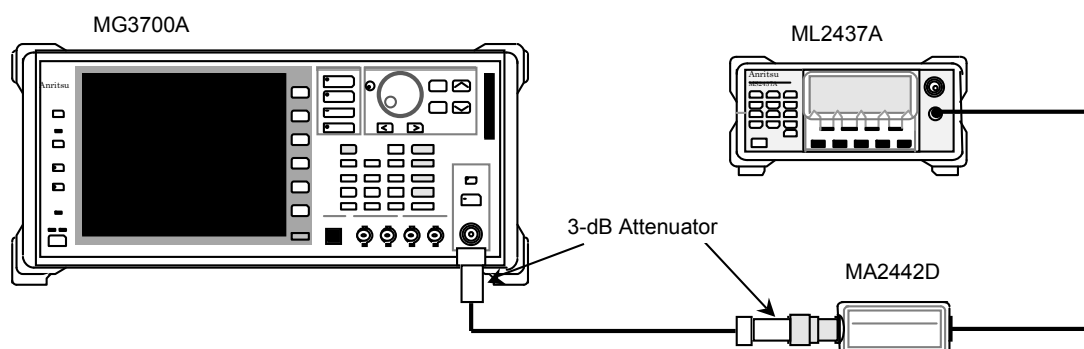

Figure 6.3.1-1 Signal Generator Calibration Setup (CW)
1. Setup the instruments as shown in Figure 6.3.1-1.
2. Output a CW 399.99 MHz signal from the Vector signal generator(SG) at a level of +6 dBm